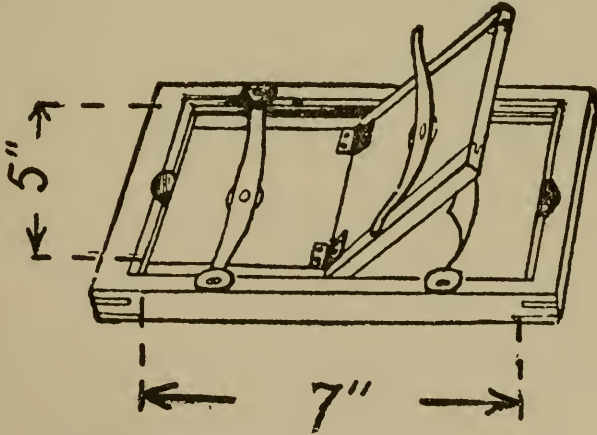

FIG. 55. A PHOTO PRINTING FRAME
*The Materials Required.*— Buy, or you can make, (1) a 5 x 7 *printing frame* as shown in Fig. 55 and get a sheet of clear glass to fit it, and (2) a couple of dozen sheets of 5 x 7 *blue-paper*41 which you can buy at any photographic supply house.